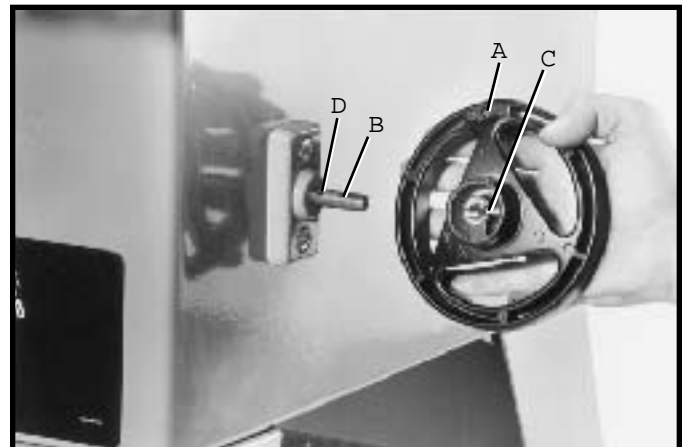

Fig. 10
1 Assemble blade tilting handwheel (A) Fig. 10, to shaft (B). Make certain slot (C) in handwheel is engaged with roll pin (D) on the shaft.